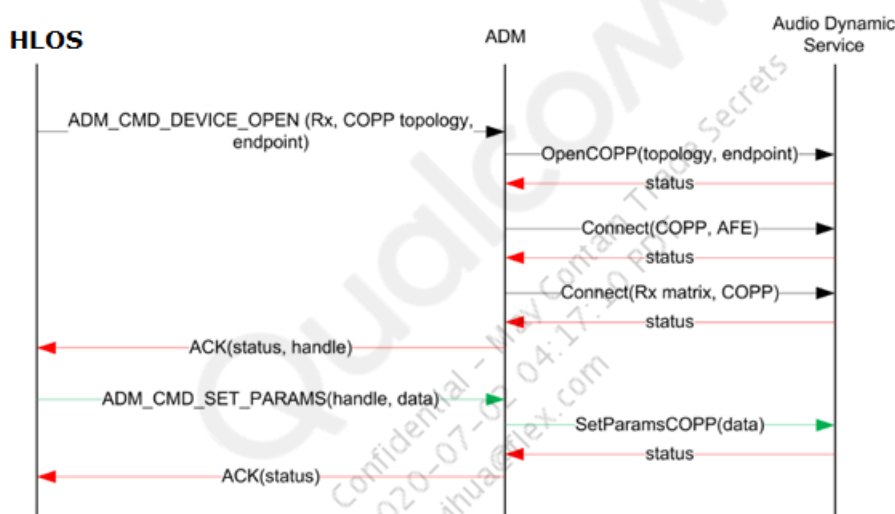

Figure 2-3 Call flow: ADM Rx COPP session setup
Figure 2-3 illustrates the setup for an ADM Rx COPP session.
Refer to Figure 2-3 for these steps:
**NOTE:** The command names in Figure 2-3 inherently include the version (such as \_V5).